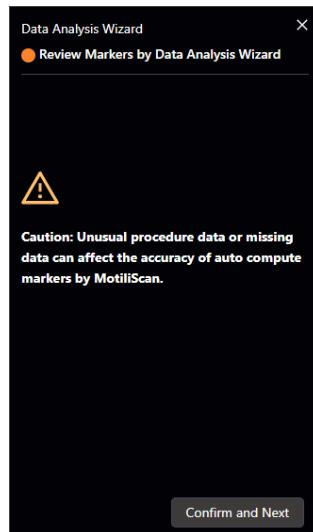

Figure 4-24 Data Analysis – Caution
- 1) Display Alert Content (Figure 4-24). Read carefully. To continue, click [Confirm and Next] to accept the alert.